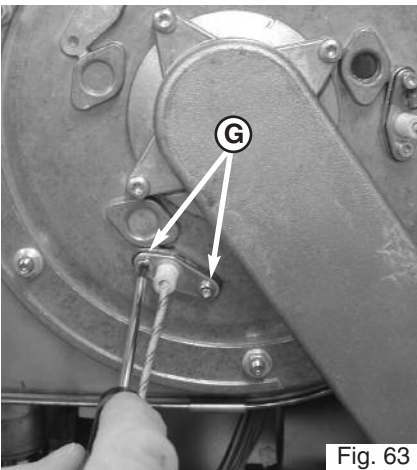

Fig. 63
2. Remove the 2 screws **G** from the electrode manifold (Fig. 63);